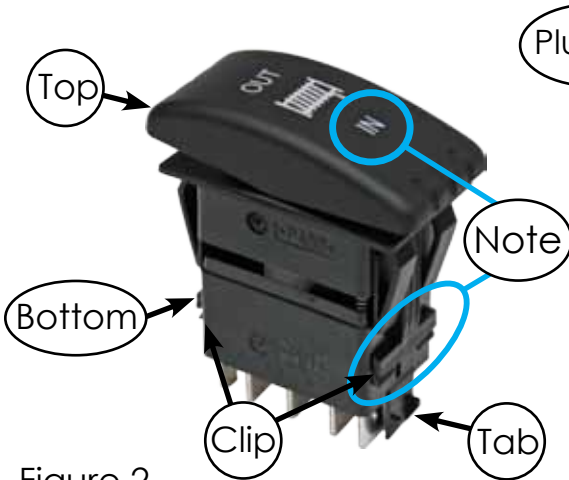

Figure 2
4. Set the white rocker plunger onto the post in the top portion of the switch shown in Figure 2.